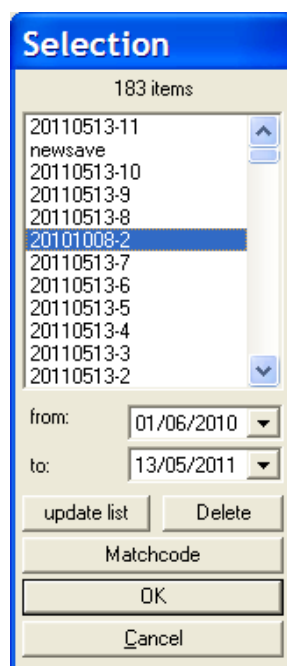

Figure 10-14: Selection – stored plates
1. From the Database menu, select **Open Saved Plate**. Selection appears and displays a list of all the stored plates (Figure 10-14).